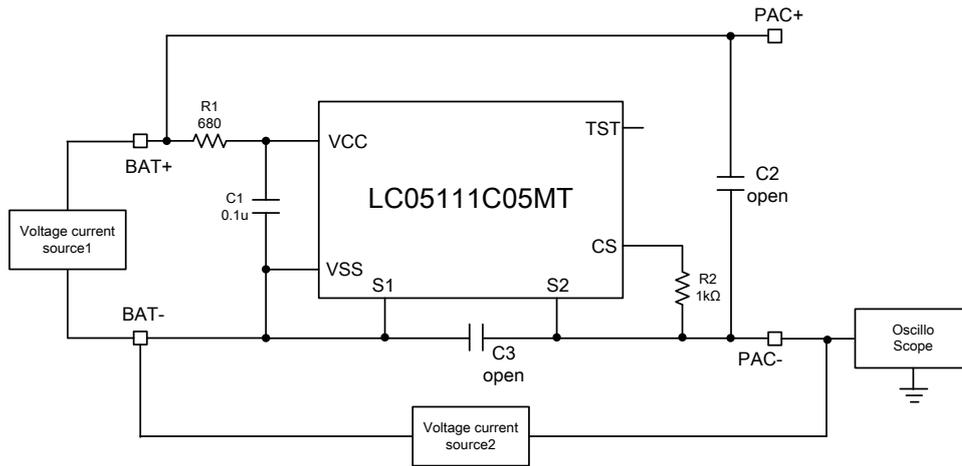

Figure1. LC05111C05MTGEVB Recommended Test Set Up for Charge/Discharge Voltage detection
1. Connect LC05111C05MTGEVB like upper Figure1.